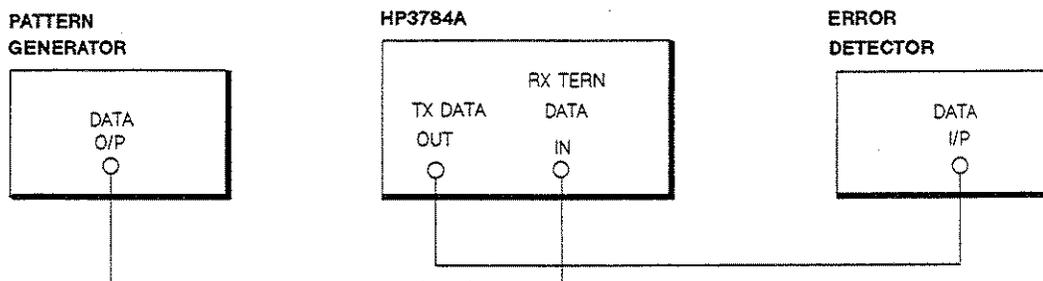

Figure 8-31 Thrudata Test Set-up
1. Connect the equipment as shown in Figure 8-31